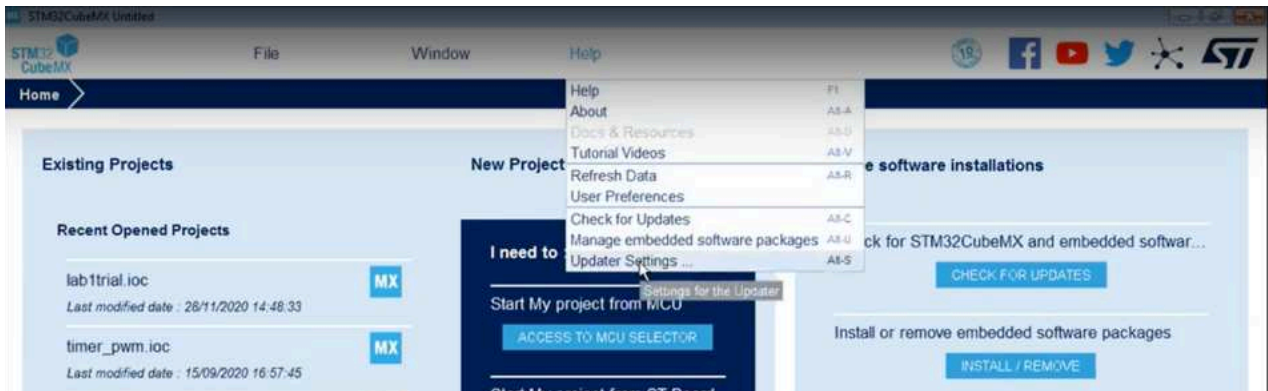
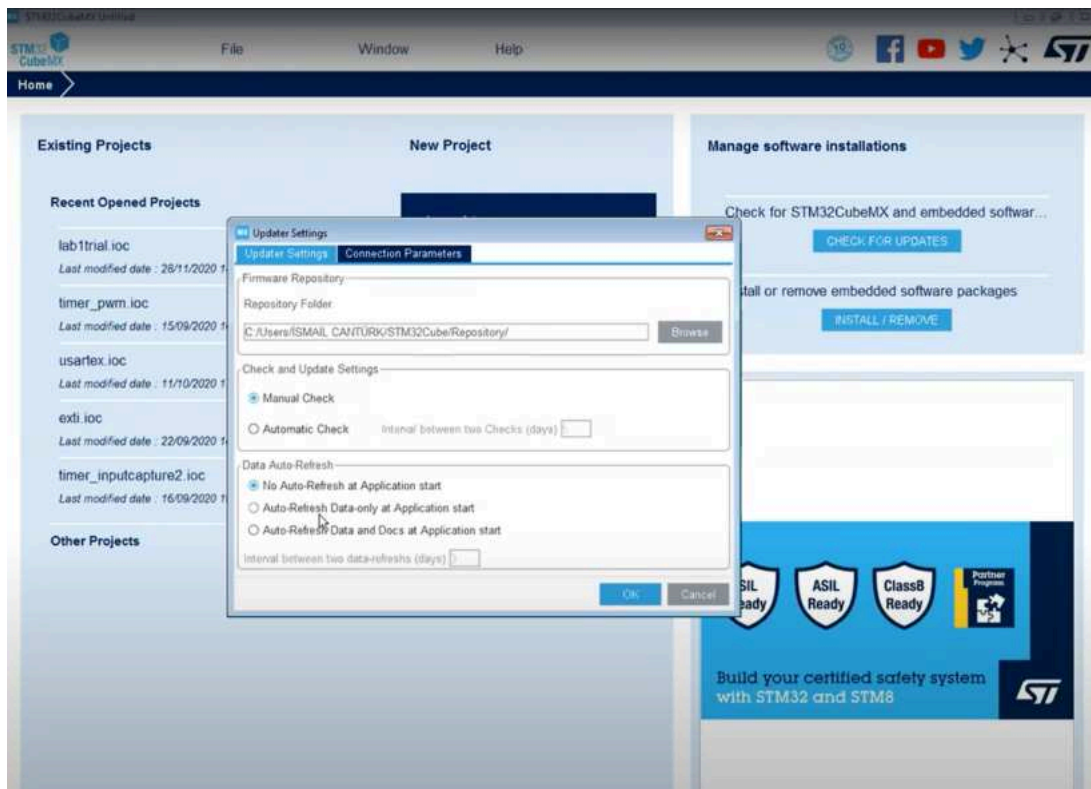

Figure 4
Figure 5
3. To prevent it from updating in ordinary, settings are made as seen in Figure 4 and Figure 5.